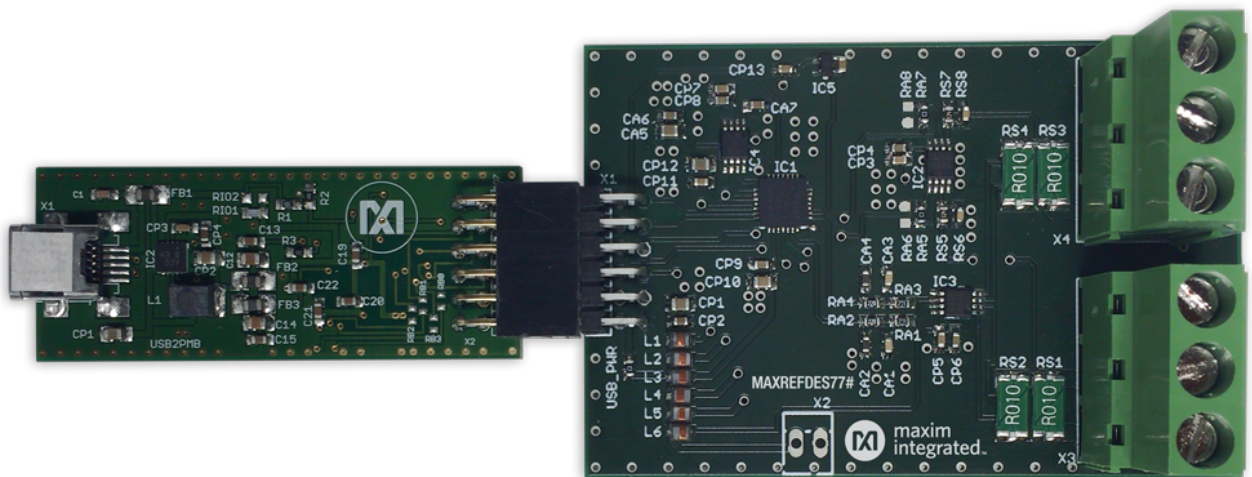

Figure 1. MAXREFDES77# connected to Munich board.
4. Connect the Munich board to a PC via a USB cable as shown in **Figure 1**.